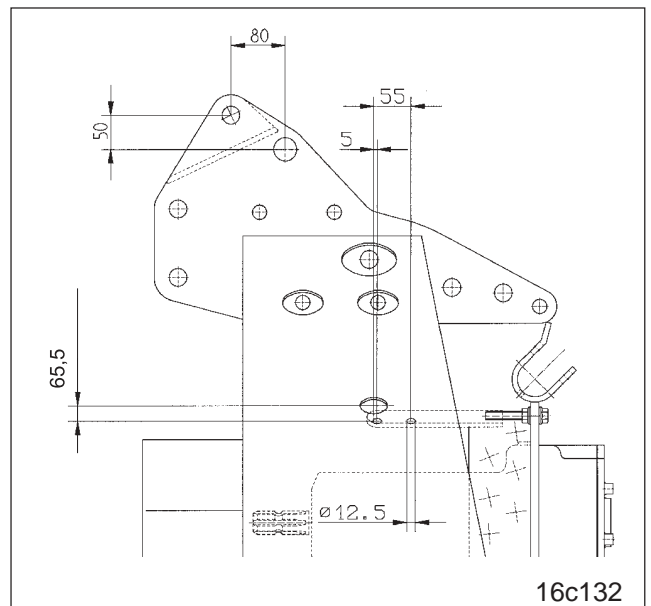

Fig. 6.3
- before drill holes $\varnothing 12,5\text{mm}$ according to Fig. 6.3 into the top link tower.